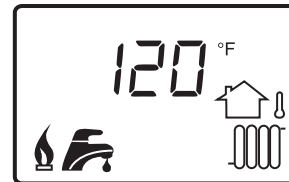

Figure 15-7: Home Screen While Running
13. If successful ignition, display will show flame icon (Figure 15-7)